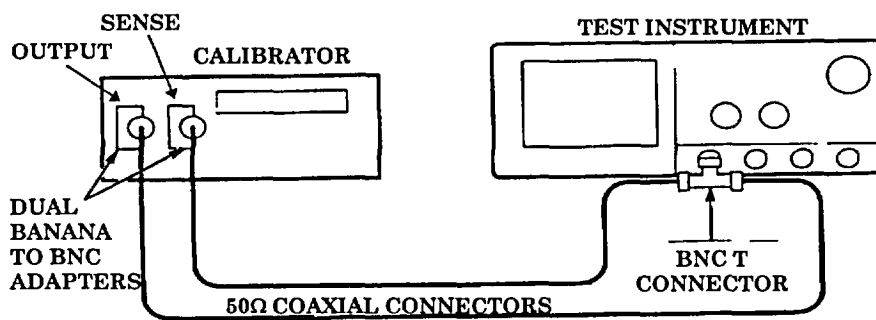

Figure 9. Equipment setup.
- (18) Press front-panel **MEASURE** key.
- (19) Press main-menu **Remove Measrmt** key.
- (20) Press side-menu **Measurement 1** key.
- (21) Press front-panel **WAVEFORM** key.
- (22) Press main-menu **Save Wfm Ch 1** key.
- (23) Press side-menu **To Ref 1** key to save probe compensation signal reference.
- (24) Remove equipment setup.
- (25) Press front-panel **MORE** key.
- (26) Press main-menu **Ref 1** key.
- (27) Press **CH 1** key.
- (28) Connect equipment as shown in figure 9 below.